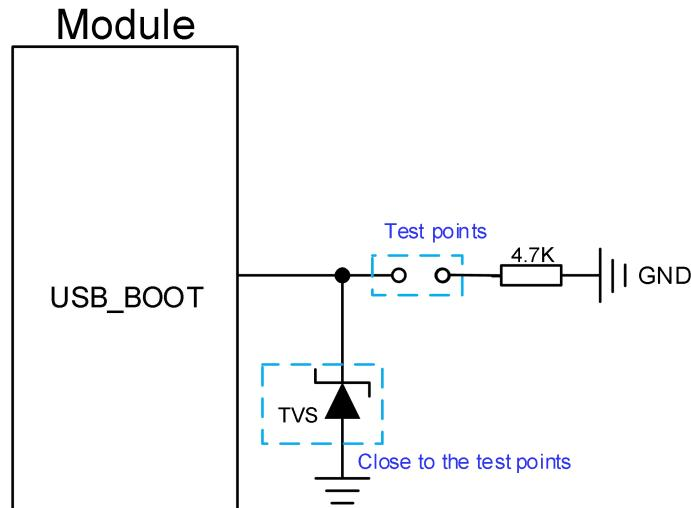

Figure 17: Reference Design of USB\_BOOT
2. Follow the above timing when using MCU to control module to enter the forced download mode. Directly connect the test points as shown in *Figure 17* can manually force the module to enter download mode.